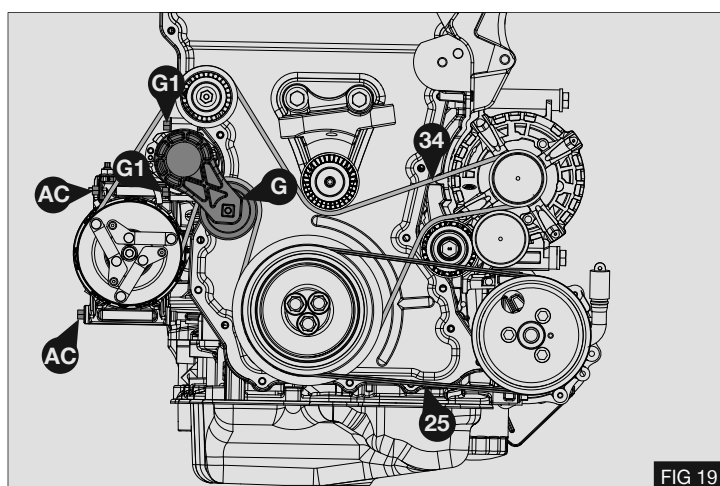

FIG 19
5. Install drive belt (34) - Fig 19
6. Tighten tensioner mounting bolts (G1) and AC compressor bolts (AC).
7. Torque bolts (G1) and (AC) to 25Nm / 18.4Lbft
8. Release automatic belt tensioner (G). - Fig 19
9. Fit PAS belt (25) - Fig 19